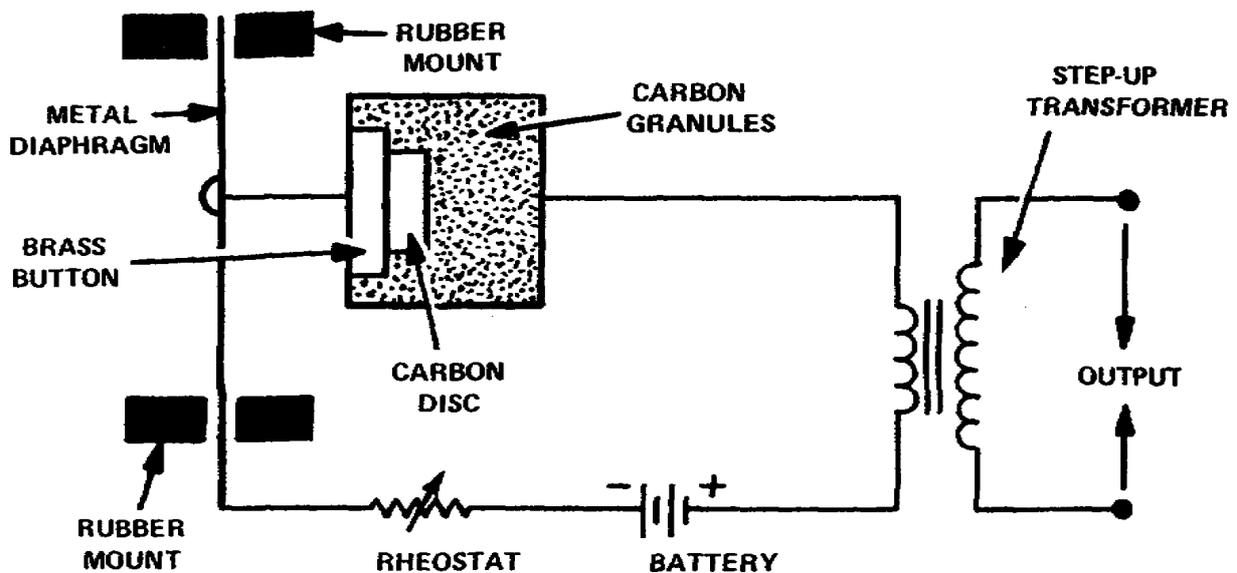

Figure 2-25. Carbon microphone
2. Carbon Microphone. This microphone is activated by carbon granules, and is held in a container (a brass cup) attached to a metallic diaphragm (fig 2-25). Sound waves striking the diaphragm cause a change in contact resistance among the granules. This change in contact causes a current from a battery, connected in series with the carbon button (brass cup), and the input of a transformer to vary in amplitude. The result is a current waveform similar to an acoustic waveform striking the diaphragm. After leaving the output of the transformer, the sound becomes amplified and reproduced. This principle of operation causes a high internal noise making the carbon microphone limited in its usage. All telephone receivers use carbon microphones because telephone transmissions require only intelligibility and voice clarity.